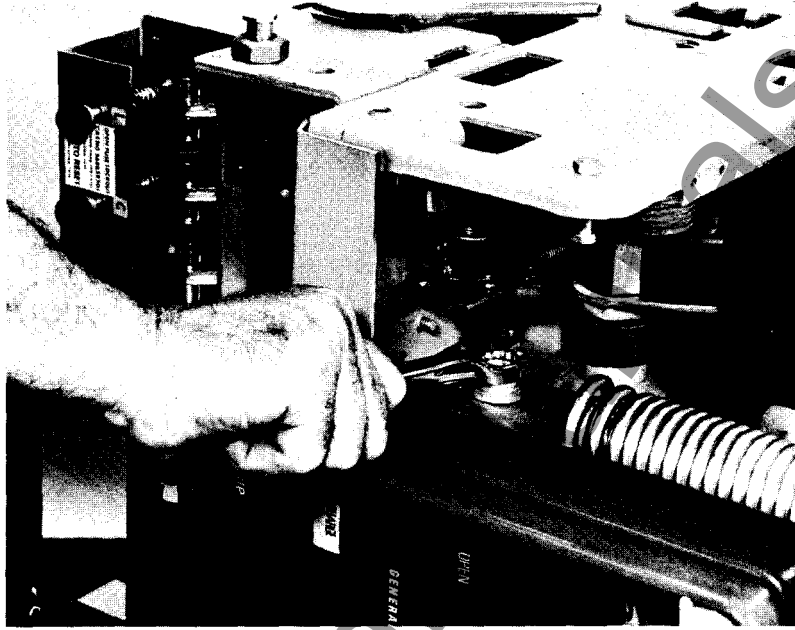

FIG. 11
8. Remove the  $\frac{3}{8}$ -16 bolt and lockwasher on the crank shaft, (see figure 11) and lift the old spring assembly out of the breaker.